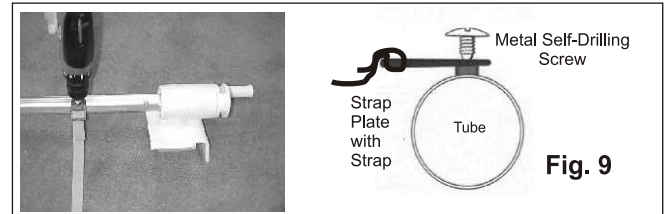

Fig. 9
- Attach strap plates to tube (see Fig. 9). **DO NOT pre-drill holes or over-tighten screws.**